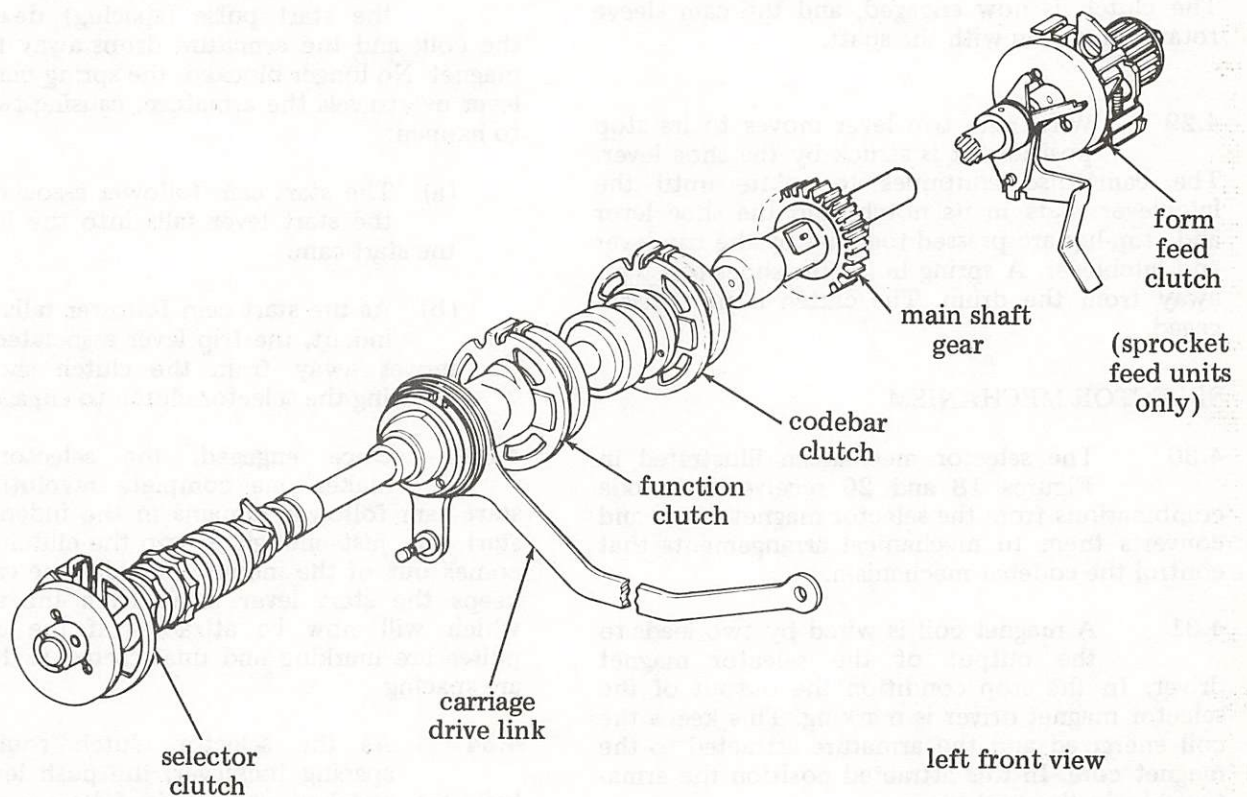

Figure 16 - Main Shaft
4.26 The main shaft illustrated in Figure 16 receives motion from the motor, and by means of clutches, distributes it to drive all the mechanisms in the typing unit except the distributor mechanism. The distributor mechanism is driven by the motor directly as explained in 4.25.